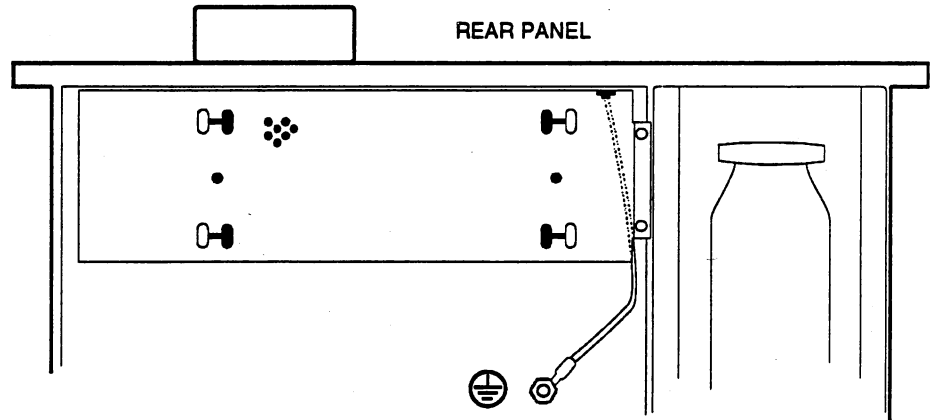

Figure 6-10: Chassis Ground Wire
3. Slide the Power Supply part way out. From the top of the instrument, remove the 5/16" nut to the chassis ground wire (as shown in Figure 6-10).